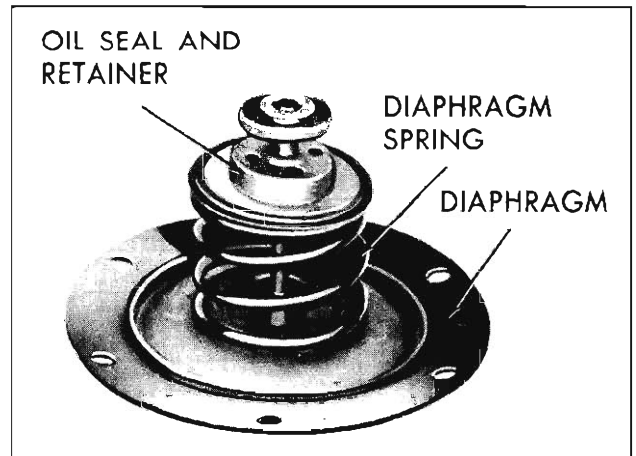

Fig. 3-138 Diaphragm Assembly
5. Remove pull rod and diaphragm assembly and rocker arm return spring. (Fig. 3-138)